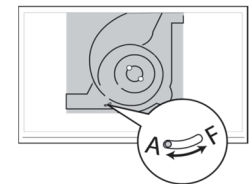

Figure 6
4. Following installation, make sure that the selector inside the hood is set to position A (Fig. 6).